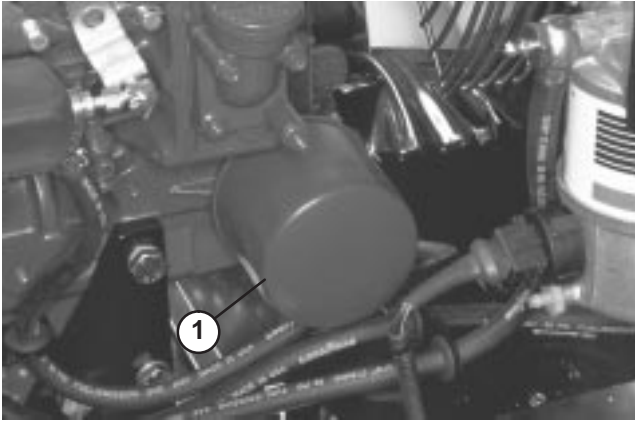

Figure 31
- Remove oil filter (Fig. 31). Apply a light coat of clean oil to the new filter seal before screwing it on. **DO NOT OVER-TIGHTEN.**